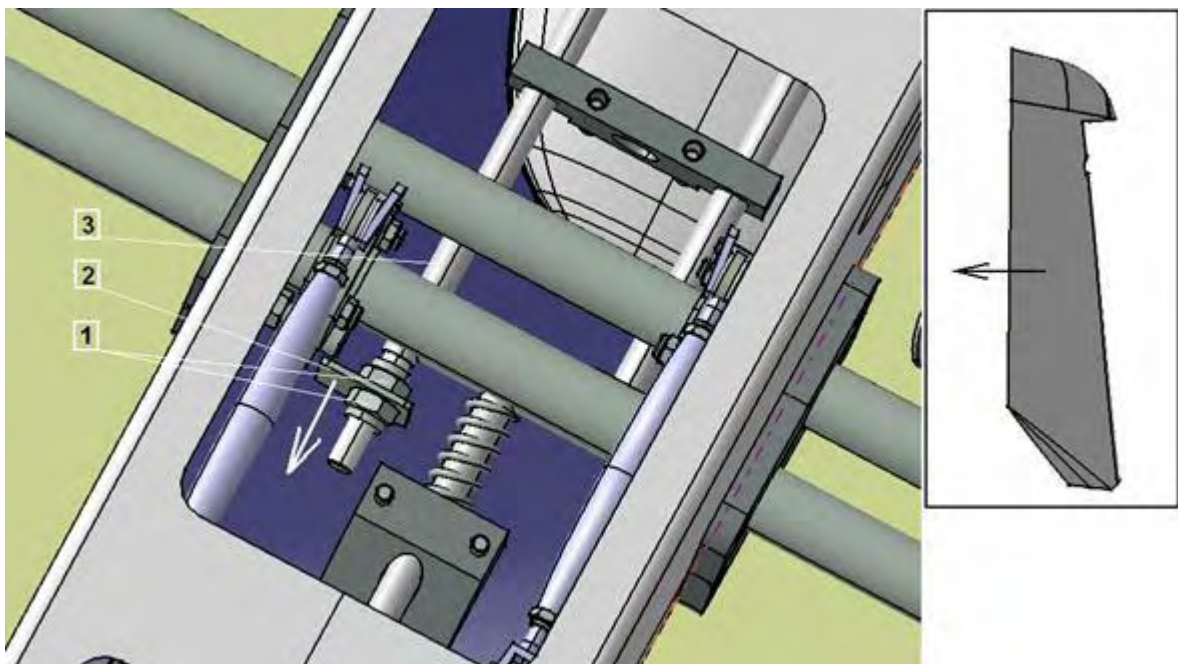

Fig. 5
- 2) To move rudder neutral position to the left, loosen by two 10x13 wrenches the nuts DIN 985 M8 (1) which tighten the stop plate KA6050206 (2) on the returning mechanism KA6050200 (3) (Fig.5).
- 3) Move the stop plate KA6050206 (2) towards the engine 0.4-0.8 inch / 1-2 mm and tighten it again by the nuts M8 (1) (Fig. 5), using a two 10x13 wrenches.